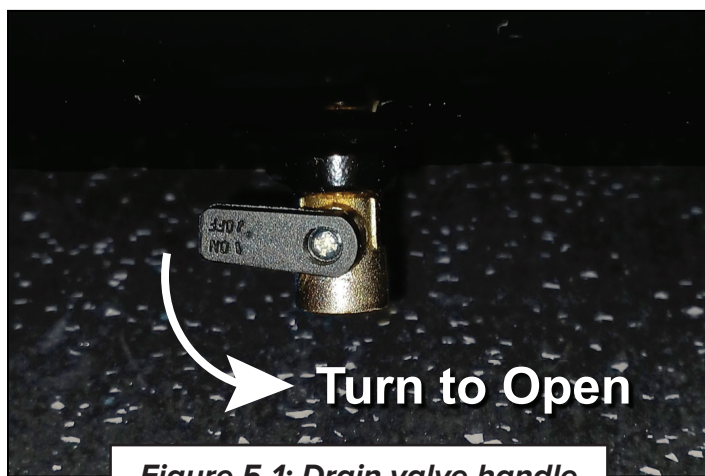

Figure 5-1: Drain valve handle
3. Open drain valve located below front of tank to release any remaining air (see Figure 5-1).